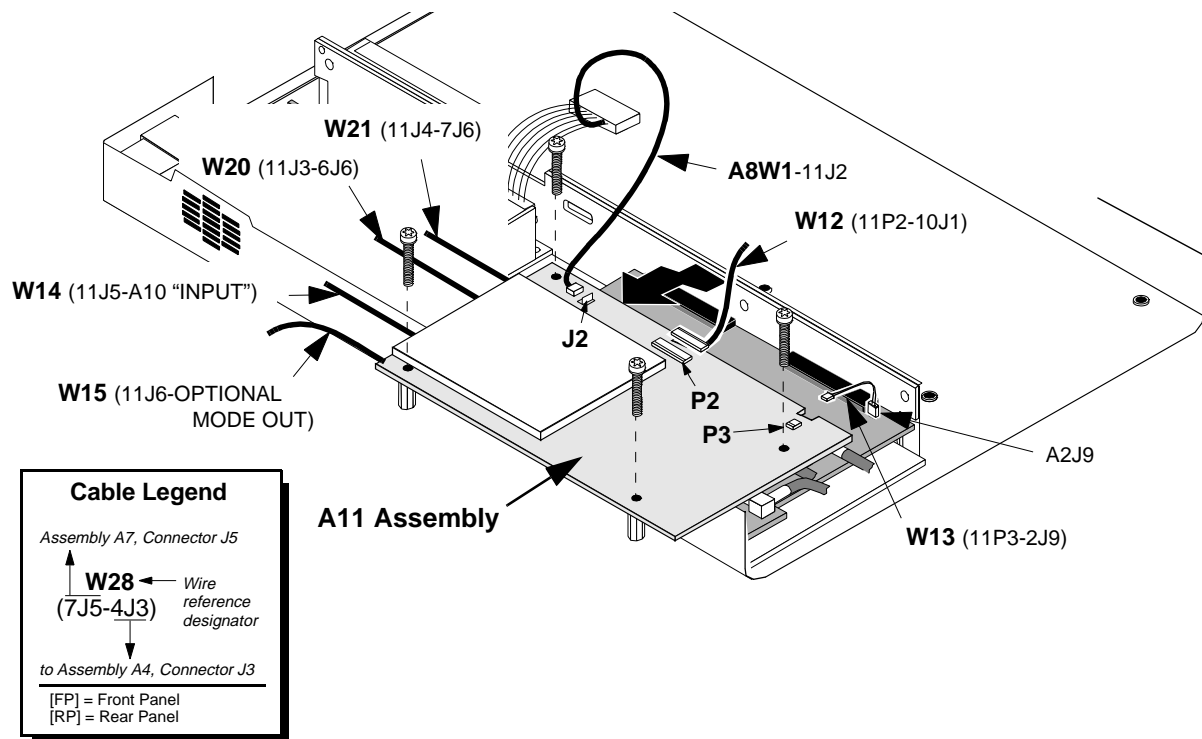

Figure 30 **Removing the A11 CDPD Assembly**
3. Remove the 4 machine screws securing the A11 assembly, see figure 30.
4. Disconnect the cables and connectors shown in figure 30 from the A11 assembly.